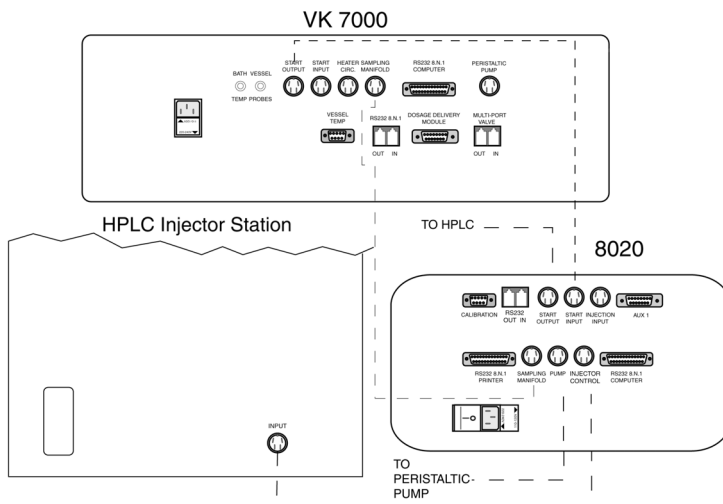

Figure 1 8020 Cable Connections
- 5 Plug one end of the four-pin cable into the SAMPLING MANIFOLD jack on the 8020 rear panel (see Figure 1, “8020 Cable Connections,” on page 22) and the other end into the corresponding jack on the dissolution apparatus rear panel.
- 6 Plug one end of the four-pin cable into the INJECTOR CONTROL jack on the 8020 rear panel (see Figure 1, “8020 Cable Connections,” on page 22) and the other end into the INPUT jack on the 8020 HPLC Autoinjector Station rear panel.